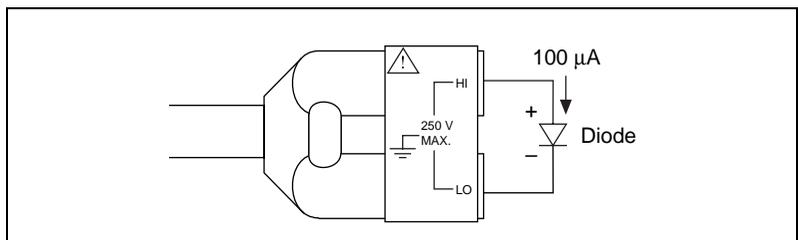

Figure 1-6. Connecting Signals for Diode Test
| Figure 1-6. | Connecting Signals for Diode Test | 1-7 |
1. Connect the test probes to a diode as shown in Figure 1-6. To accurately measure the forward voltage of a diode, make sure that the diode is not connected to any other circuits. The NI 4050 biases the diode with a current of 100 μA and measures the resulting voltage drop. Diode measurements are made with a fixed range of 2.0 V.